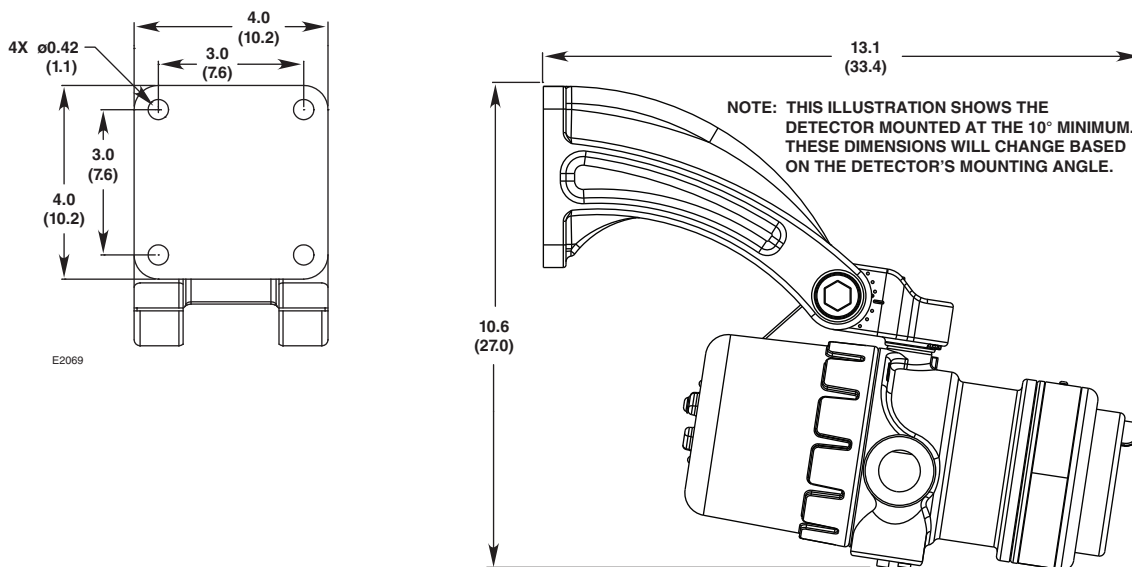

Figure 2—Q9033 Mounting Arm Dimensions in Inches (cm)
2. Install the Mounting Arm using 1/4 inch (M6) bolts with a length of at least 1 inch (25 mm). Refer to Figures 2 and 3 for dimensions.